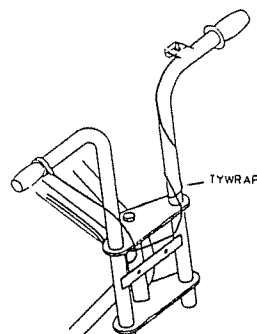

Figure 1: Routing Diagram
5. Rotate the Twist Grip so that the Throttle Cable points downward and slightly ahead. The Throttle Cable and Housing should form a smooth curve from the Twist Grip to the upper Frame tube, see Figure 1. Tighten the two Screws in the Twist Grip securely.
2. To mount the Fork Assembly to the Frame, align the Fork Pivot Holes with the Frame Pivot Tube and insert the Bolt (REF 47) through the Fork Holes and Bushings. Ensure the Throttle Cable is to the right of the Pivot Tube, see Figure 1. It may be necessary to tap the head of the Bolt with a hammer to seat it in position against the Nut welded to the bottom side of the Lower Fork Plate. Tighten the Bolt until there is no play between the Fork and the Pivot Tube but will still allow the Fork to rotate freely.
1. Rout the Stop Switch Wire (REF 65), as shown in Figure 1, along the Top, Right side of the Frame, under the Top Crown Plate, and between the Pivot Tube and Right Fork Tube. Wrap the Wire around the Left Handlebar one time. Remove the Nut and On/Off Plate from the Stop Switch. Pass the Stop Switch up through the mounting hole on the Handlebar. Replace the On/Off Plate and the Nut. Work any slack in the Stop Switch Wire towards the Pivot Tube and apply one Ty-Wrap (REF 72) as shown in Figure 1. Securely tighten the Nut.